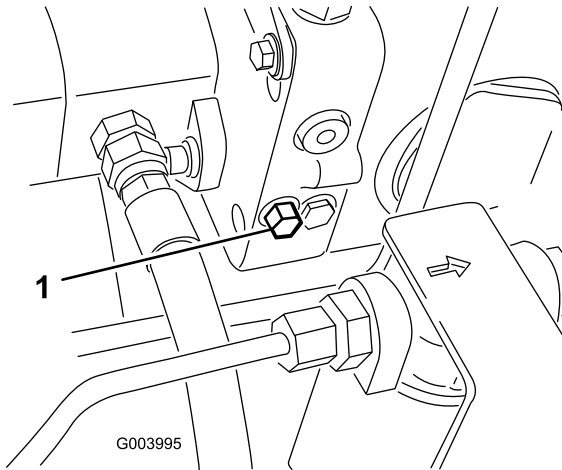

Figure 24
1. The bypass valve is located on the left side of the hydrostat (Figure 24). Rotate the bolt 1–1/2 turns to open and allow the oil to bypass internally. Because fluid is bypassed, the machine can be moved slowly without damaging the transmission.